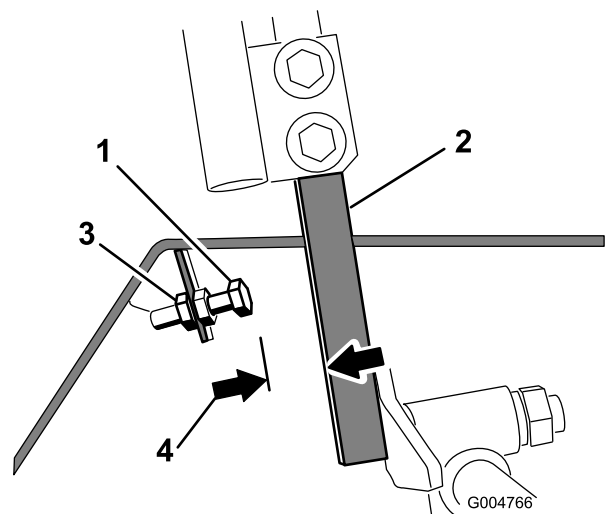

Figure 65
4. Loosen the jam nut on the stop bolt for one of the control levers (Figure 65).